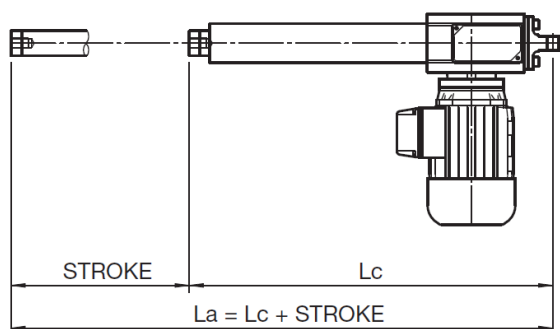

Figure 6.8 – Quote “Lc” and “La”
- Check if the extreme dimensions of the actuator “Lc” and “La” (see Fig. 6.8) are compatible with extreme positions of the plant component that has to be moved.
- Before to start relubrication, put the actuator in extended position (La – see Fig. 6.8)